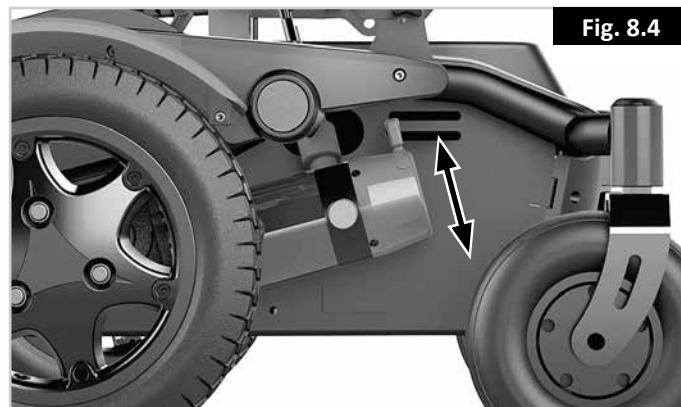

Fig. 8.4
8.7 Freewheel device (Fig. 8.4):